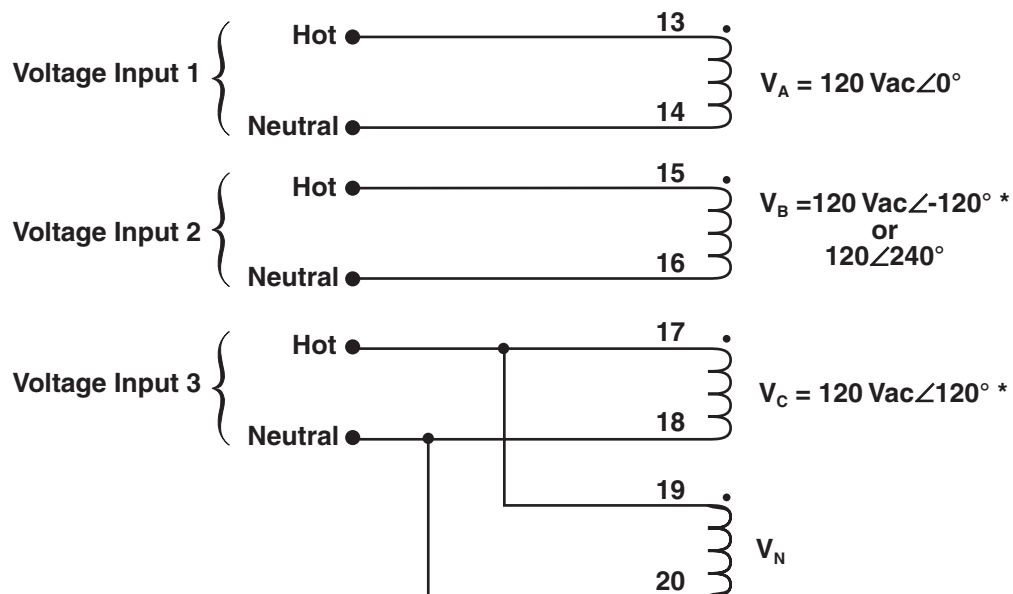

Figure 7-1 Voltage Input Configuration
2. Connect the voltage and current inputs according to the configurations shown in Figures 7-1 and 7-2. Before beginning each test, set the test voltage inputs to 120 V ac and the current input to 2 A to simulate normal operating conditions.